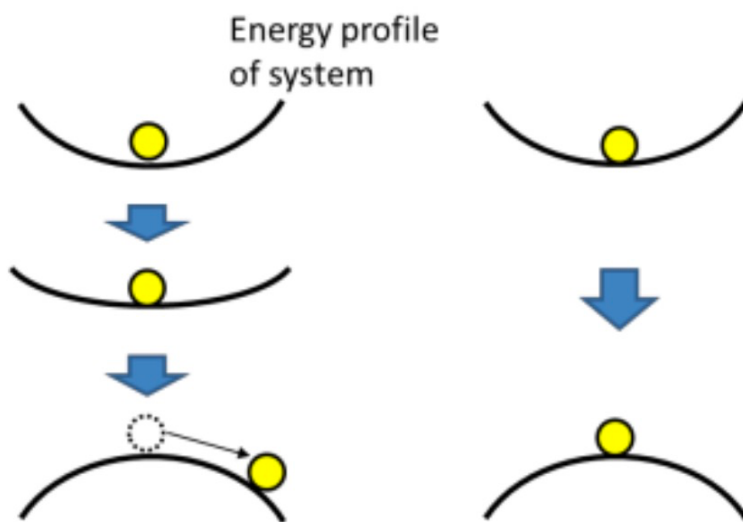

Figure 2 – Schematics of structural destabilization and unstable equilibrium.
*Note:* In the absence of thermal fluctuation, the system may reach an unstable equilibrium without buckling. (See Figure 2.)